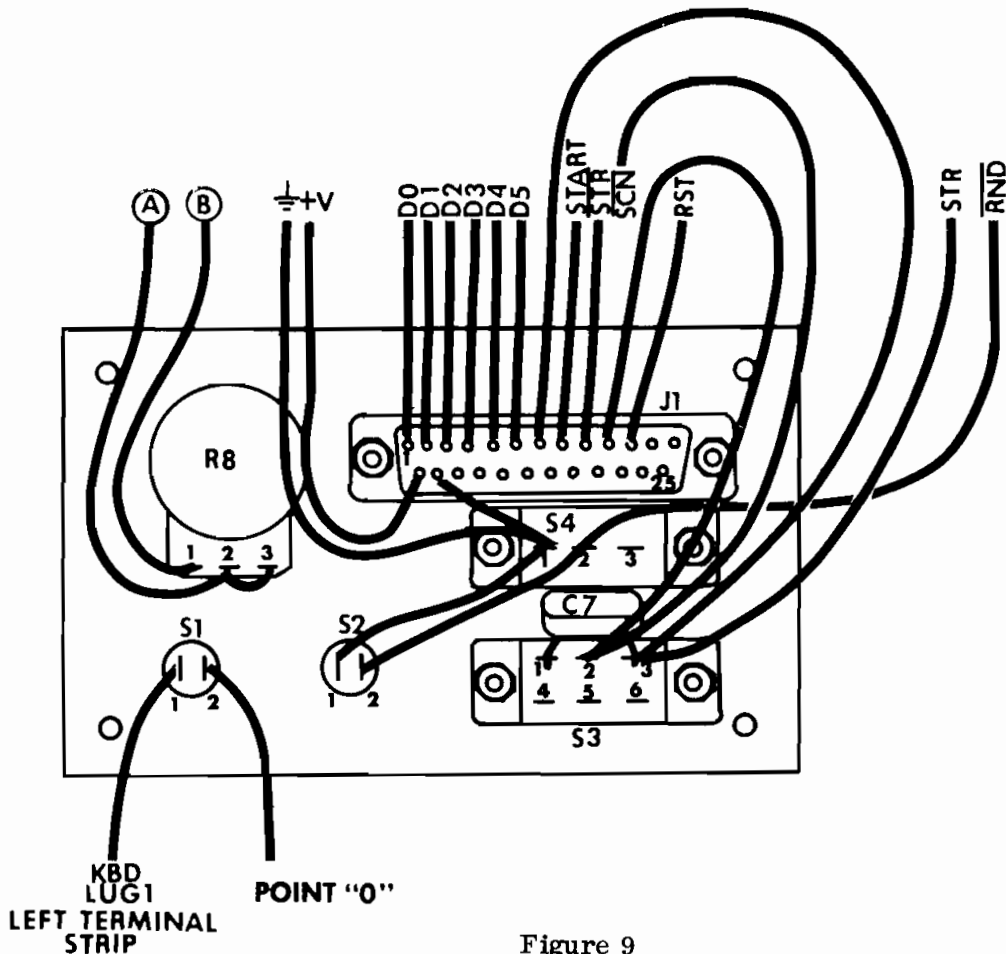

Figure 9
- () Select the DB-25S socket. Using two #4-40 X 1/4" machine screws, two #4 lockwashers, and two #4-40 nuts, mount the socket in location J1 as shown in figure 9. Make sure the socket is oriented as shown before mounting.
- () Select the single pole slide switch (S4) and mount as shown using two each 4-40 X 1/4" machine screws, #4 lockwashers, and 4-40 nuts. Orient as shown in figure 9.
- () Select the 500K potentiometer (R8) and mount as shown in figure 9. Use two 3/8" nuts, one behind the panel as a spacer, and the second as the mounting nut in front of the panel. Orient as shown before mounting.